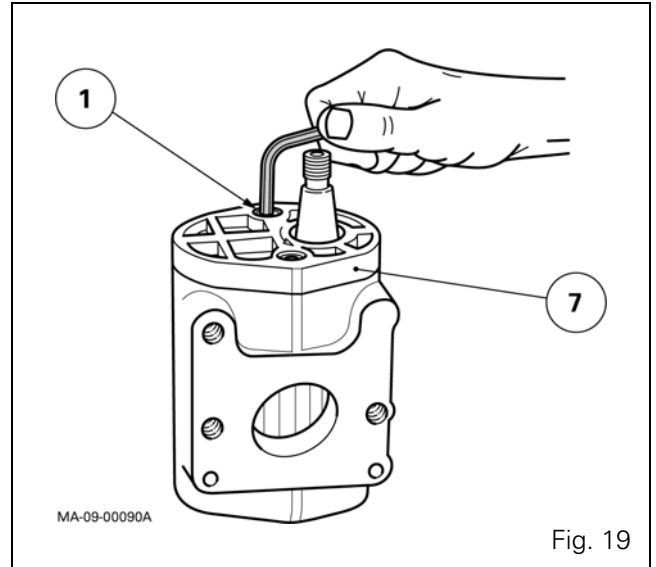

Fig. 19
37. Unscrew the screws (1) and remove the cover plate (7) (Fig. 19).
Tighten the screws (1) (Fig. 19) to a torque of 30 - 40 Nm.